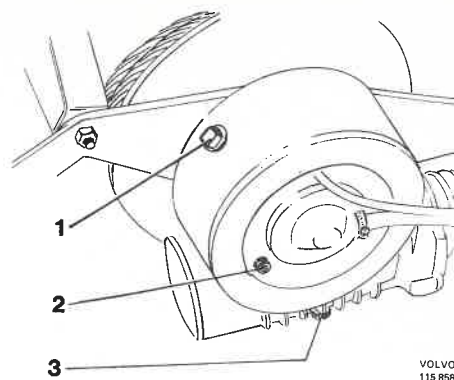

Fig. 92-40. Worm gear plugs
9. Remove the level plug (2), see Fig. 92-40, on the gear housing cover. Remove the filler plug (1) and fill with oil. Concerning quantity and quality, see under "Data".